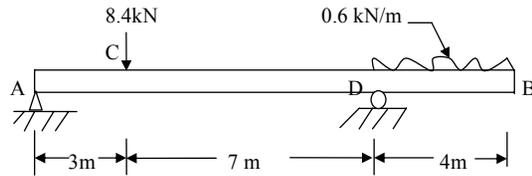

Fig.2
22. a) A beam AB is subjected to a concentrated load of 8.4 kN at C together with a distributed load of 0.6 kN/m for length of 4 m as indicated in Fig.2. Plot the shear force and bending moment diagrams. Locate the point of contra flexure if any.